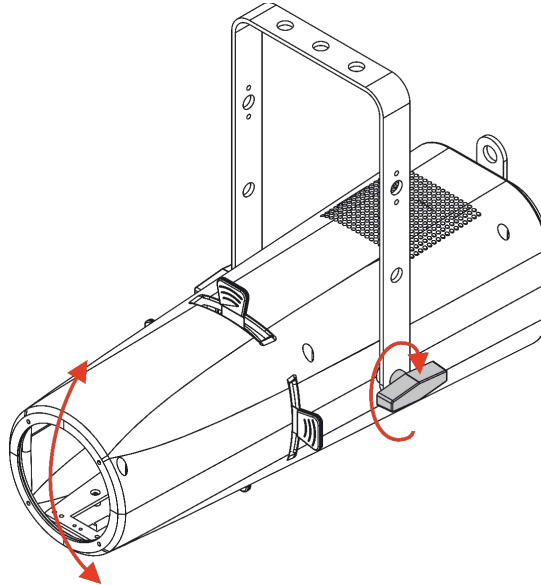

Fig. 06
- 01) Turn the **adjustment screws (05)** counterclockwise to release them.
- 02) Tilt the device at the desired angle (see Fig. 06).
- 03) Turn the **adjustment screws (05)** clockwise to tighten them. Make sure that the device cannot move freely after the **adjustment screws (05)** are tightened.